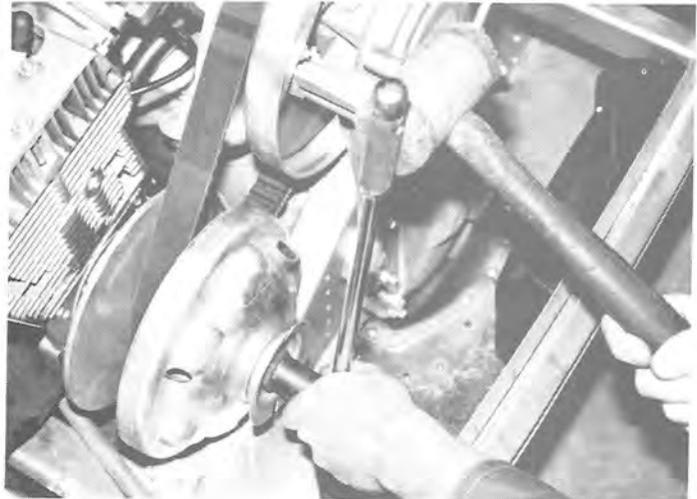

FIG 4-2
2. Remove clutch attaching bolt and bell retaining bolt. Use impact wrench capable of 75 or more ft. lbs. torque (In the field alternate method may be used.) Making sure ignition is off, run engine up on compression using $\frac{3}{4}$ " socket and ratchet. Strike ratchet with plastic or rubber mallet. (See Figure 4-2).